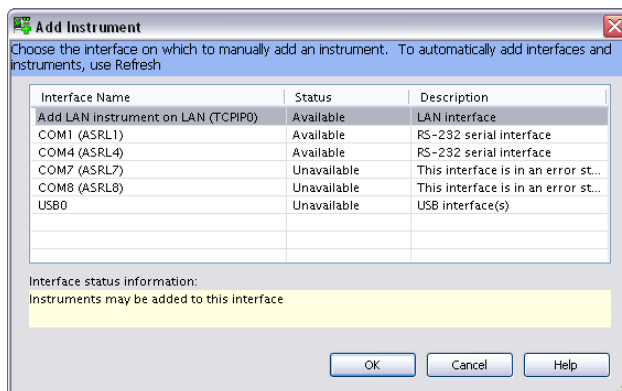

Figure 1-11 Add Instrument window
- 2 On the Agilent Connection Expert window, click on  **Add Instrument**. An Add Instrument window will be prompted out. Select **Add LAN instrument on LAN (TCPIPO)** interface and click **OK** (see Figure 1-11).